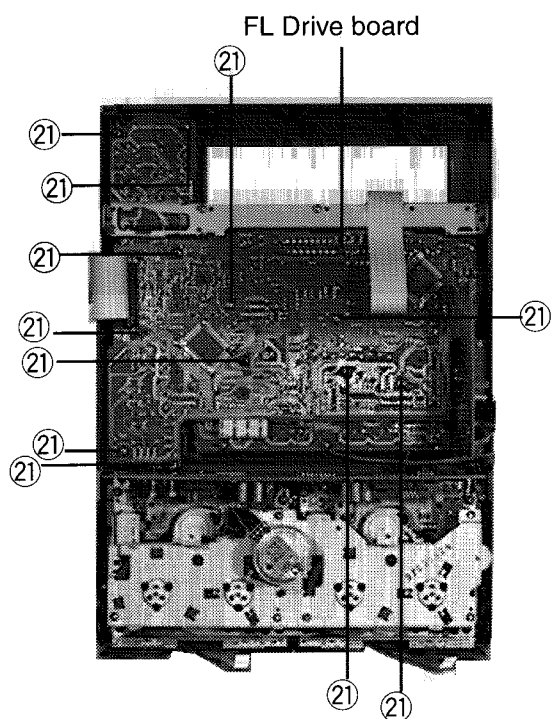

Fig. 20
7. Remove the eleven screws㉑ fastening the FL drive board from the inside of the front panel assembly.(See Fig.20)